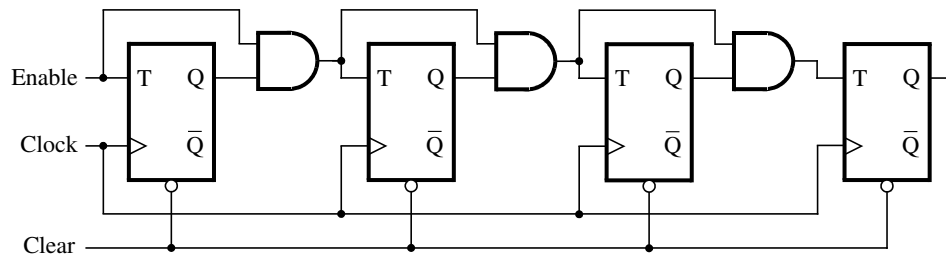

Figure 1: A 4-bit counter.
Consider the circuit in Figure 1. It is a 4-bit synchronous counter which uses four T-type flip-flops. The counter increments its value on each positive edge of the clock if the *Enable* signal is asserted. The counter is reset to 0 by setting the *Clear* signal low – it is an active-low asynchronous clear. You are to implement a 8-bit counter of this type.
1. Write a Verilog file that defines a 8-bit counter by using the structure depicted in Figure 1. Your code should include a T flip-flop module that is instantiated 8 times to create the counter (i.e. structural Verilog). Compile the circuit. How many logic elements (LEs) are used to implement your circuit? What is the maximum frequency,  $F_{max}$ , at which your circuit can be operated? (Use TimeQuest in Quartus to determine the maximum frequency  $F_{max}$ .)
5. Use the Quartus II RTL Viewer to see how Quartus II software synthesized your circuit. What are the differences in comparison with Figure 1?